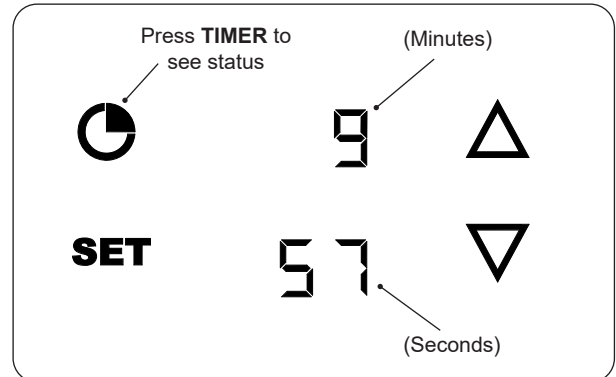

Fig. 40-2 Check timer status
- To check the timer status, press the **TIMER** button and the display will show the live countdown (for 5 seconds then, return to the default screen). See Fig. 40-2.
- The upper display indicates minutes and the lower display indicates seconds (see Fig. 40-2).